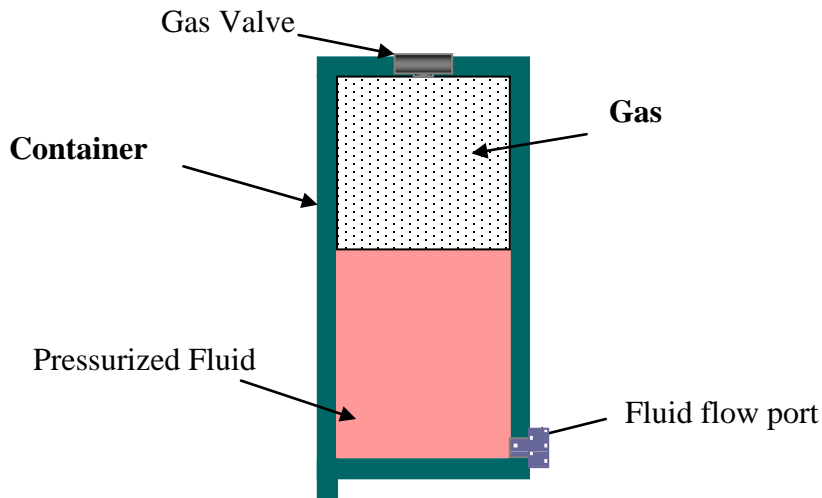

Fig 5.26 Non Separator - Type Gas Accumulator
- a. **Non separator- Type Accumulator**: The non separator type of accumulator (fig 5.26) consists of a fully enclosed shell containing an oil port on the bottom and a gas charging valve on the top. The gas is confined in the top and the oil at the bottom of the shell. There is no physical separator between the gas and oil and thus the gas pushes directly on oil. The main advantage of this type is its ability to handle large volume of oil. The main disadvantage is absorption of gas in the oil due to the lack of a separator. Absorption of gas in the oil also makes the oil compressible, resulting in spongy operation of the hydraulic actuators. This type must be installed vertically to keep the gas confined at the top of the shell.